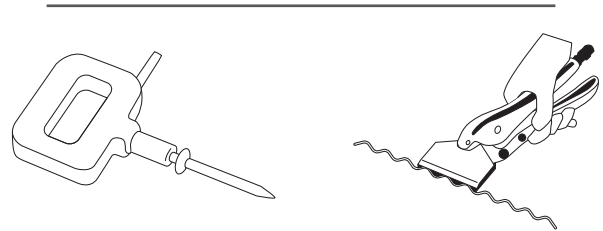

Figure 505.4
5. After welding, the best way to break off the pulling rod is by twisting. Wiggling from side by side may cause hole in the panel. Pins can be snipped or twisted off. Wiggle wire is removed by rocking up and down. We recommend using a Vise-Grip® model 8R. Please see Figure 505.4.